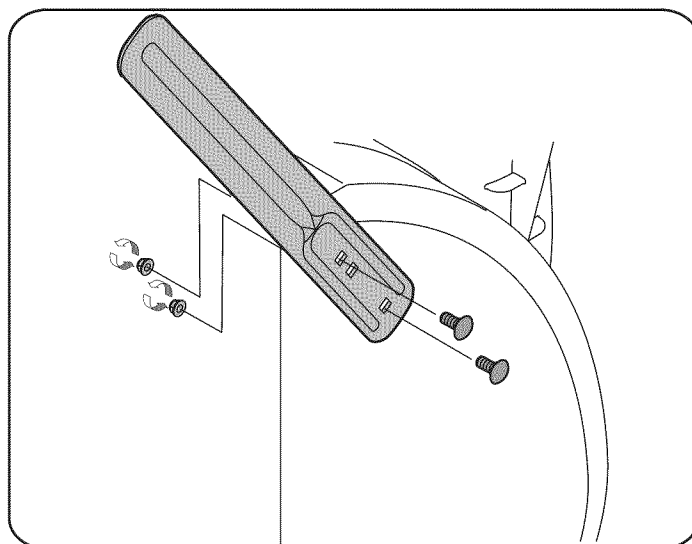

Figure 7
2. Turn the drift cutters around and position them as shown in Fig. 7 to the outside of the auger housing.